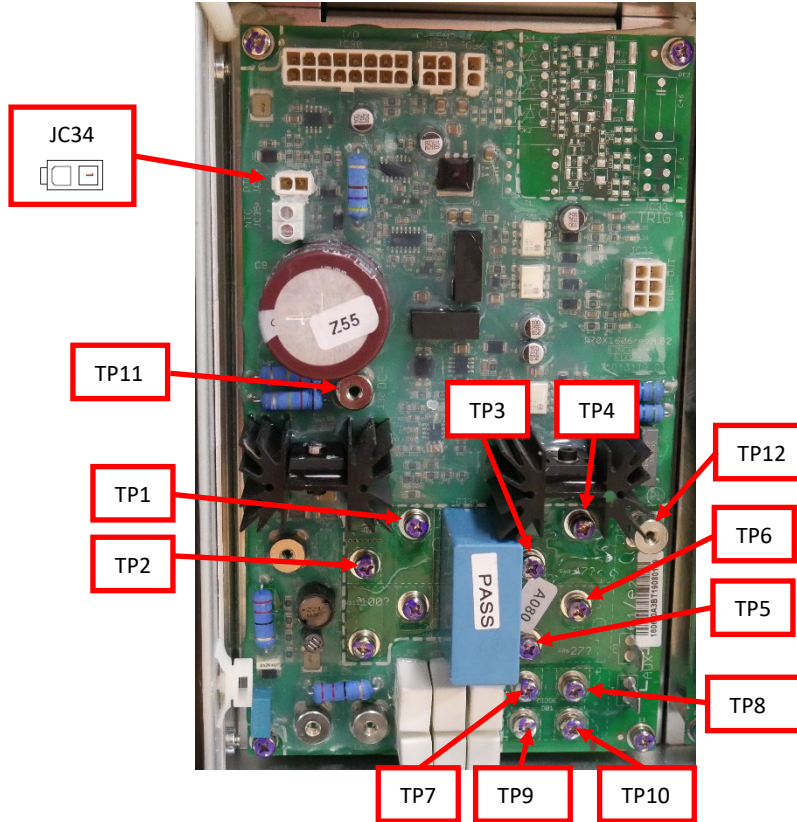

Figure F.2
A.2. Perform the static measurements in Test Table 1, refer to Figure F.2 for test point locations. **NOTE: DO NOT DISCONNECT WIRES FROM THE OUTPUT CONTROL BOARD.**